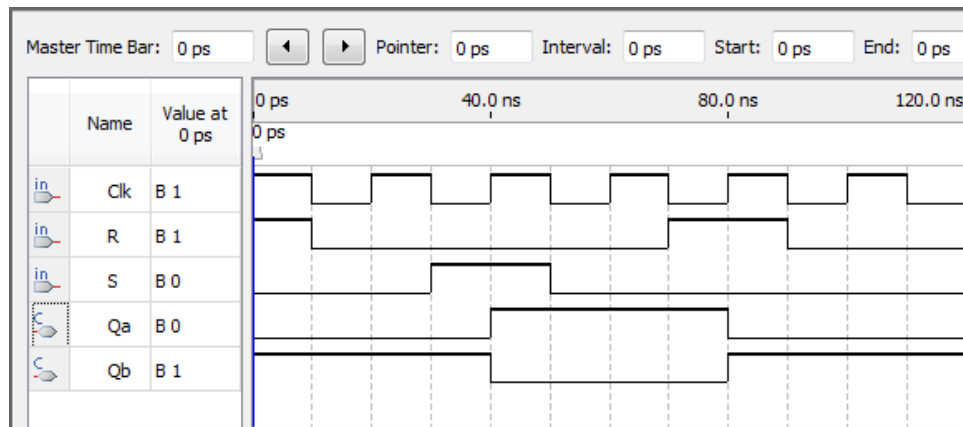

Figure 5: Simulation waveforms for the RS latch.
4. Simulate the behavior of your Verilog code by using the simulation feature provided in the Modelsim software. Use the testbench provided in the laboratory materials to drive the signals for your simulation. The procedure for using Modelsim for simulation is described in the tutorial *Using the ModelSim-Intel FPGA Simulator*. An example of a vector waveform file is displayed in Figure 5. The waveforms in the figure begin by setting  $Clk = 1$  and  $R = 1$ , which allows the simulation tool to initialize all of the signals inside of the latch to known values.